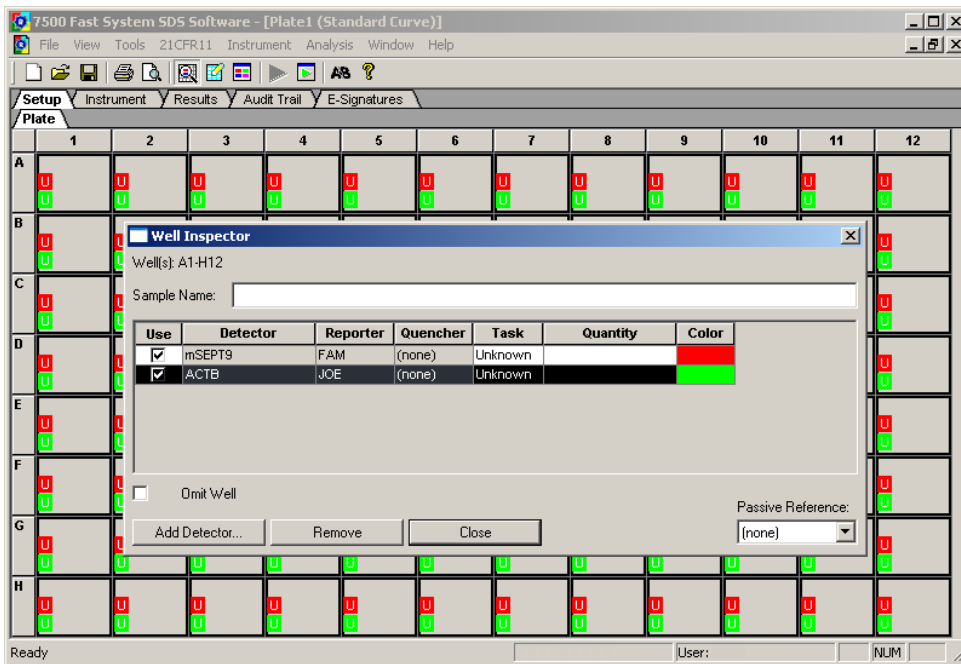

Figure 1: Screenshot after confirming settings in the 'Well Inspector' window.
- Check the Passive Reference setting to be “(none)” (see Figure 1).